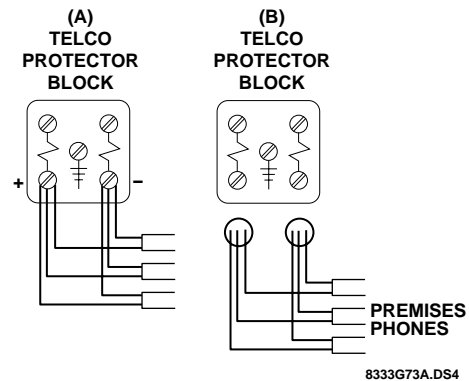

Figure 16. Disconnecting Premises Phones
- 4) Disconnect the premises phone line's positive and negative leads at the Telco protector block, which you located in the previous procedure, "Checking Phone Line Polarity" (see A in Figure 16). If there are multiple phone lines at the Telco protector block, keep the positive and negative leads grouped separately when you disconnect (see B in Figure 16).